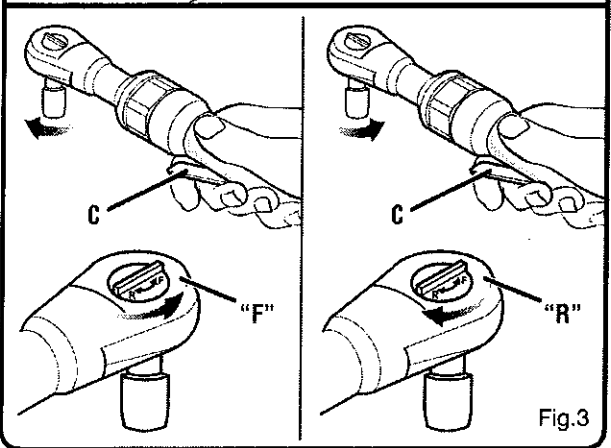

Fig.3
- 5) Ensure the direction of rotation is correct before operation. Set the selector to the "F" position (Forward - clockwise) to tighten. Set the selector to the "R" position (Reverse - counterclockwise) to loosen (Fig. 3).
- 6) Operate the tool by depressing the 'lever' (C) on the handle (Fig. 3).